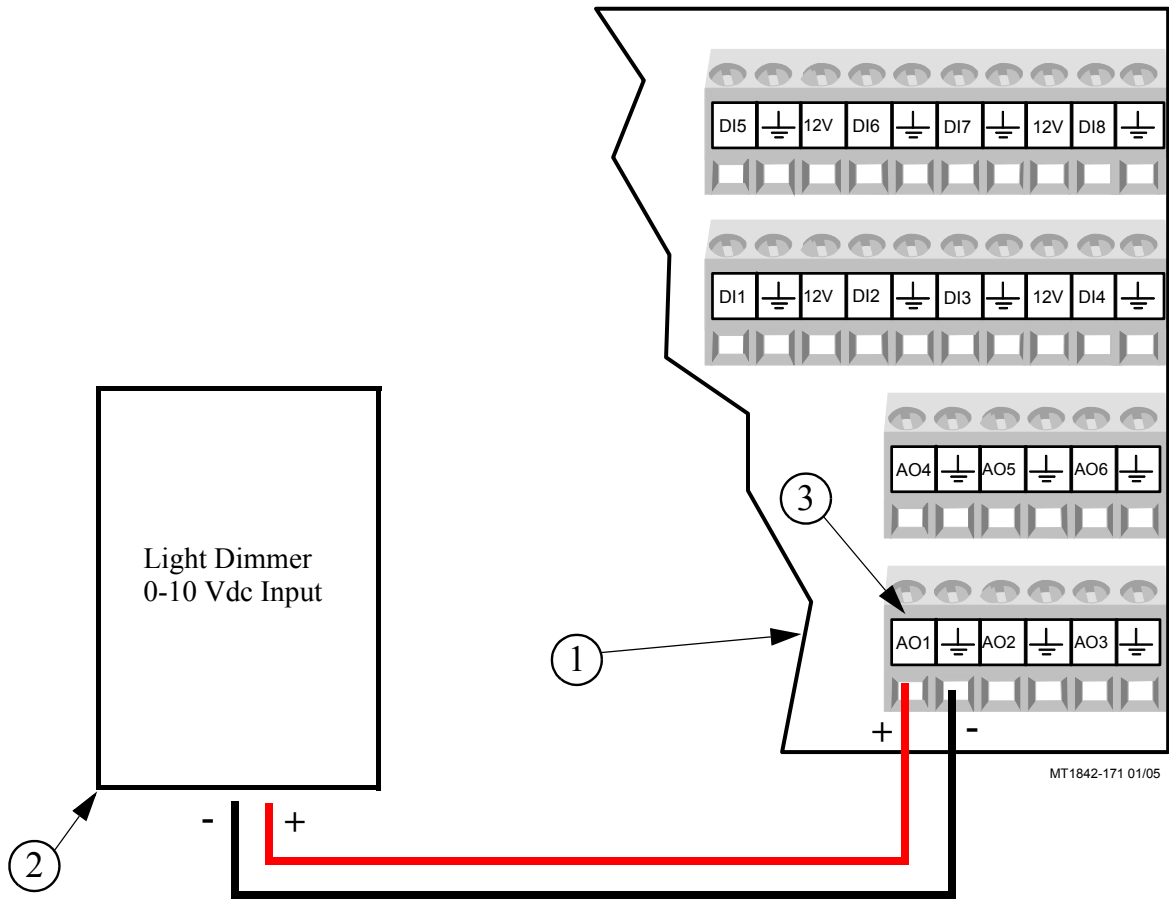

**Figure 96. PDS Flush Feedback Wiring**
If a PDS Drinker Control is being used to automatically flush water lines, then the Control can ignore pulses coming from the Water Meter(s) while flushing is taking place. If this option is used then a dry contact relay must be connected to one of the Digital (DI) Inputs of the IO Board. The coil of the relay should be energized whenever the Control begins its flushing sequence. See **Figure 96** below for connecting the relay to the IO board of the Control.